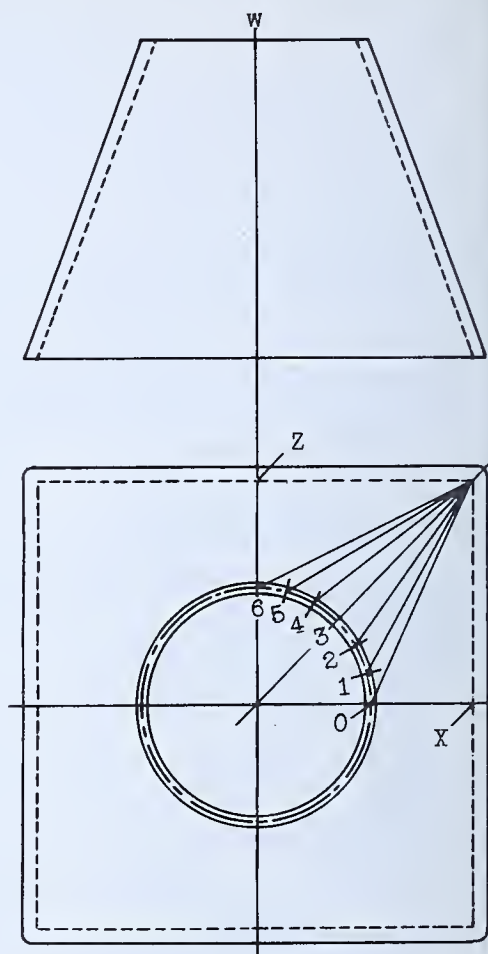
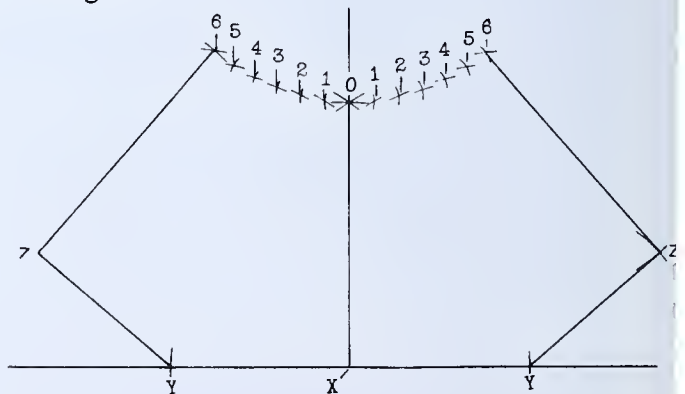

FIG. 294 — *Full-Sized Layout of Transformer*
FIG. 300 — *Finding the Intersections for the Curve*
1. Make a full-sized layout as shown in Fig. 294.
2. Divide the circumference of the neutral diameter of the eighteen-inch-diameter end of the transformer into twenty-four equal spaces and use the spaces in one quadrant as shown in Fig. 294.
7. Set the trammels to the distance  $x-o$  in Fig. 294.
9. Set trammels to the distance  $y-o$  in Fig. 294.
11. Set the trammels to the distance  $y-l$  in Fig. 294.
13. Set the trammels to the distance  $y-2$  in Fig. 294.
15. Set the trammels to the distance  $y-3$  in Fig. 294.
17. Note that the distances from  $y$  (Fig. 294) to  $0, 1$ , and  $2$  are the same as the distances from  $y$  to  $6, 5$ , and  $4$ .
23. Set the trammels to the distance  $x-y$  in Fig. 294.
28. Transfer this distance to the template as shown at  $x-o$  in Fig. 300.
Set one trammel point in the intersection of line  $x-o$  with the horizontal line (Fig. 300), and scribe an arc to cut point  $o$  on line  $x-o$ .
29. Set the dividers to distance  $0-1$  in Fig. 294.
30. Place one divider point in intersection  $0$  (Fig. 300) and scribe a short arc at  $1$ .
35. Set the dividers to distance  $1-2$  in Fig. 294.
36. Place one divider point in intersection  $1$  (Fig. 300) and scribe an arc to cut the arc scribed in Step 34.
37. Continue setting dividers and trammels to distances on Figs. 294 and 298 until intersections have been made from  $0$  to  $6$  as shown at the right and the left of the center line  $x-o$  in Fig. 300.
38. Set the trammels to distance  $y-z$  in Fig. 294.
41. Place one trammel point in intersection of two arcs at  $6$  (Fig. 300) and scribe an
Repeat this at the left-hand  $y$ . The two arcs should intersect as at  $z$  in Fig. 300.
42. Scribe lines from  $y$  to  $z$  and from  $z$  to  $6$  at right and left sides of Fig. 300.
43. Scribe straight lines from  $y$  to  $0$  and from  $y$  to the rest of the intersections shown in Fig. 300.
44. Scribe a curved line to the right through the intersections  $0, 1, 2, 3, 4, 5$ , and  $6$  shown in Fig. 300.
45. Scribe a curved line to the left through the intersections  $0, 1, 2, 3, 4, 5$ , and  $6$  shown in Fig. 300.